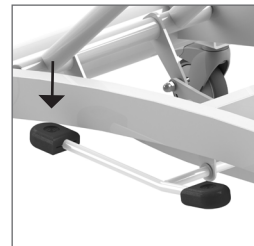

Figure 3. Moving upwards.
- The shower trolley moves gently and evenly upwards as a result of tapping the long part of the foot pedal (See figure 3).